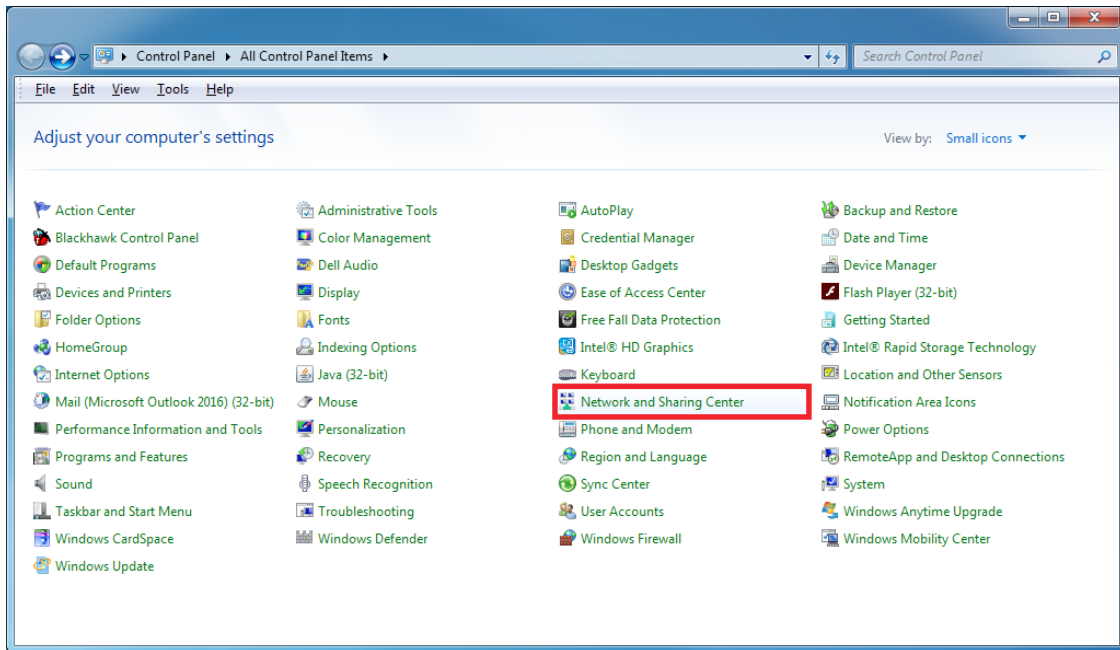

Figure 10 – Control Panel view showing Network and Sharing Center link
2. In the Control Panel, search for the Network and Sharing Center link (shown in Figure 10 below).